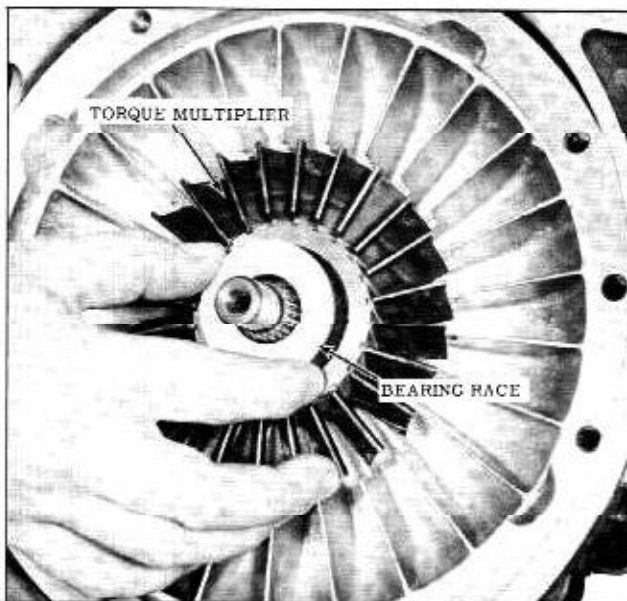

Fig. 3-121 Installing Bearing Race
5. Install driven torus to torque multiplier rear bearing race into torque multiplier. (Fig. 3-121)